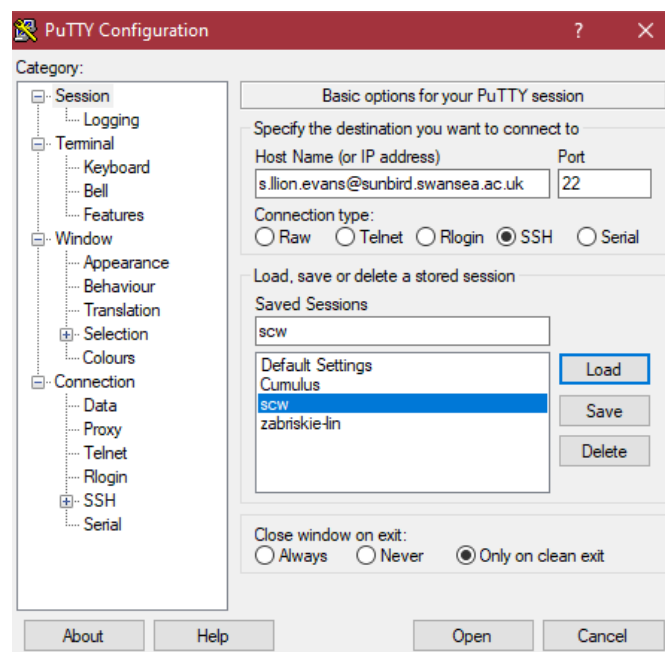

Figure 5. Login GUI for PuTTY.
- b. Ensure that 'Port' is 22 and 'Connection type' is SSH, as shown in Figure 5.